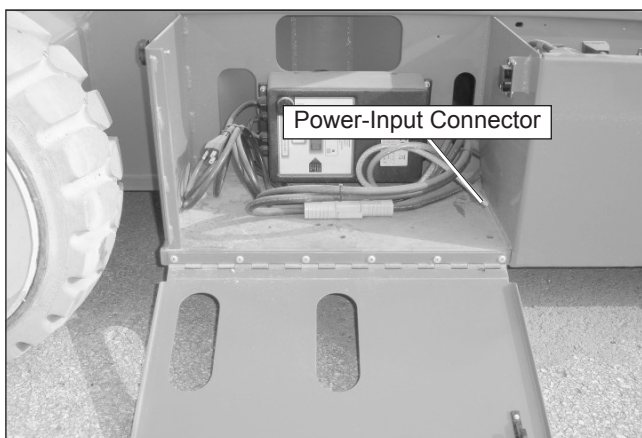

Figure 8.18 – Power-Input Connector
1. Connect a source of 110 volt AC power to the power-input connector on the right side of the chassis (refer to Figure 8.18).